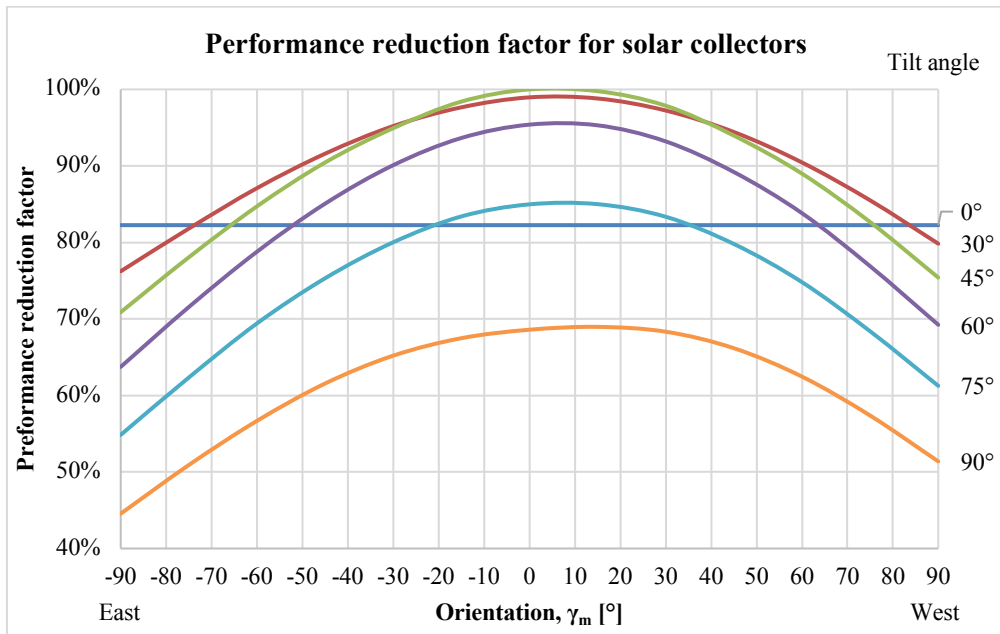

Figure 1. Performance reduction factor (k) for solar collector systems
- Calculating the reduction factor for the actual orientation of the solar collectors. For determining the reduction factor Performance reduction factor (k) for solar collector systems can be taken from Figure 1 or can be calculated by using Equation 1.